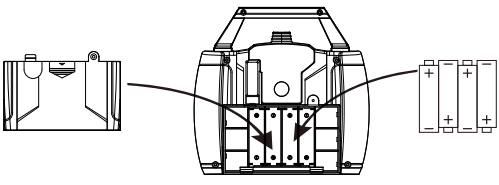

Fig.2
3. Install batteries (size 1.5V AA, not included) according to polarity symbols (+) and (-) in battery compartment (Fig. 2).